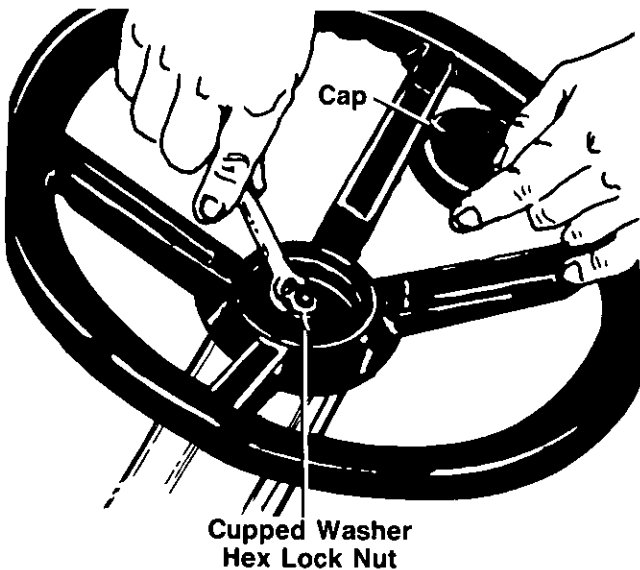

FIGURE 8.
16. Place **steering wheel (C)** in position desired. Make certain the steering wheel is seated over the end of the steering tube.
17. Place the **cupped washer** with the cupped side down over the **steering shaft**. Secure with 5/16" **hex lock nut**. See figure 8.